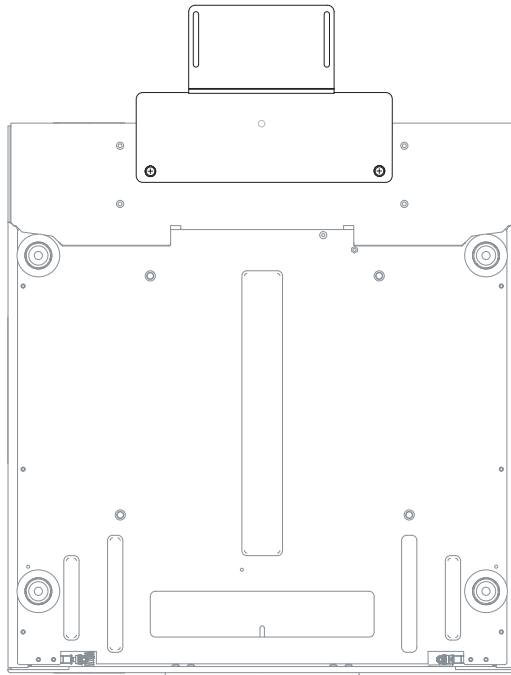

Figure 3-10. Projector with Whitney (Prismatic) Lens Base Plate and Ceiling Mounting Plate - Bottom View
4. Secure the CineWide base plate (and ceiling mounting plate, if needed) to the projector with the M6x12mm screws and washers provided with the CineWide lens base plate. See Figure 3-10.